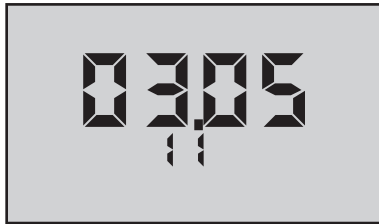

Figure 12
Example shown in Figure 12 is in US format, i.e., mo/dy/yr.
2. Press  repeatedly until the date is displayed (scrolling through stored readings, “PC OFF”, “CLF ALL” and time to the date, e.g., “03.05 10” (Figure 12), March 5, 2010).